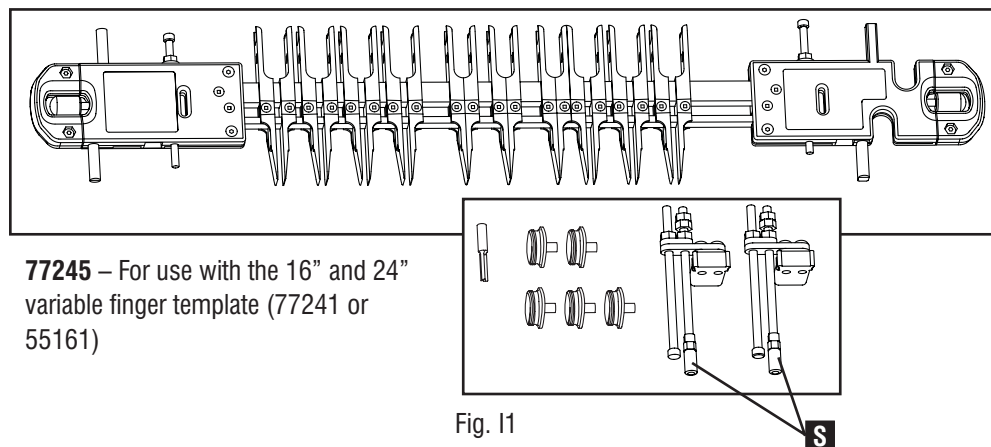
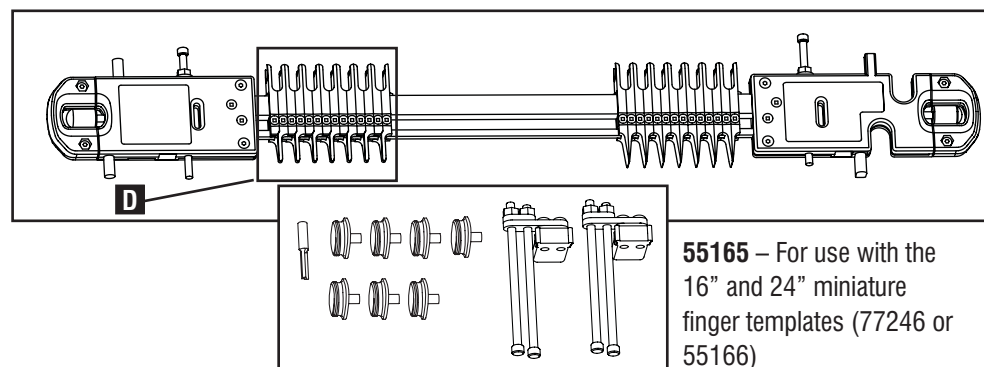

Fig. I1
Fig. I2
Box joints of variable finger widths can be made using an accessory box joint kit with the variable finger template (Fig. I1) or the miniature finger template (Fig. I2) on your OMNIJIG®. The accessory kit 77245 (Fig. I1) is used with the 16" and 24" variable finger templates (55161 or 77241). The accessory kit 55165 (Fig. I2) is used with the 16" and 24" mini finger templates (55166 or 77246).
**NOTE:** Box joint accessory kits 55165 and 77245 each include two offset double stops. These stops differ from the double stops used for other joinery applications, such as through and half-blind dovetails, although their function remains the same. The offset double stops for 77245 include a spacer (S) Fig. I1, that is located either on the front or back of the stop depending on the board's thickness to be cut. More detail is provided later in this chapter.
**NOTE:** The fingers used to cut box joints on the miniature finger template are the same fingers used to cut half-blind dovetails, as shown in (D) Fig. I2.